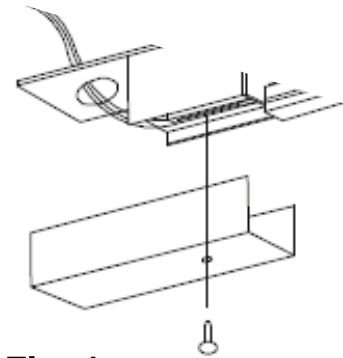
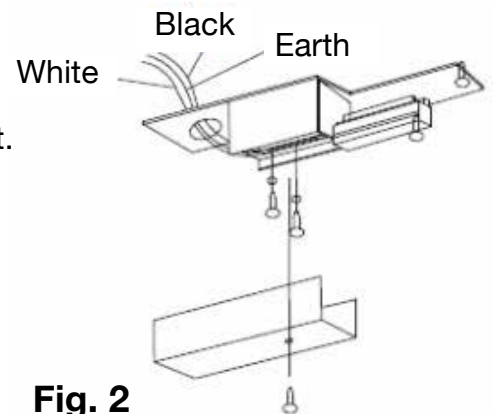

Fig. 1
Fig. 2
1. Remove plastic and metal cover from junction box by losing cover screw as in figure 1.
2. Connect the black power cord with live terminal (L).
3. Connect the white power cord with neutral terminal (N).
4. Connect the yellow / green earth wire as in figure 2.